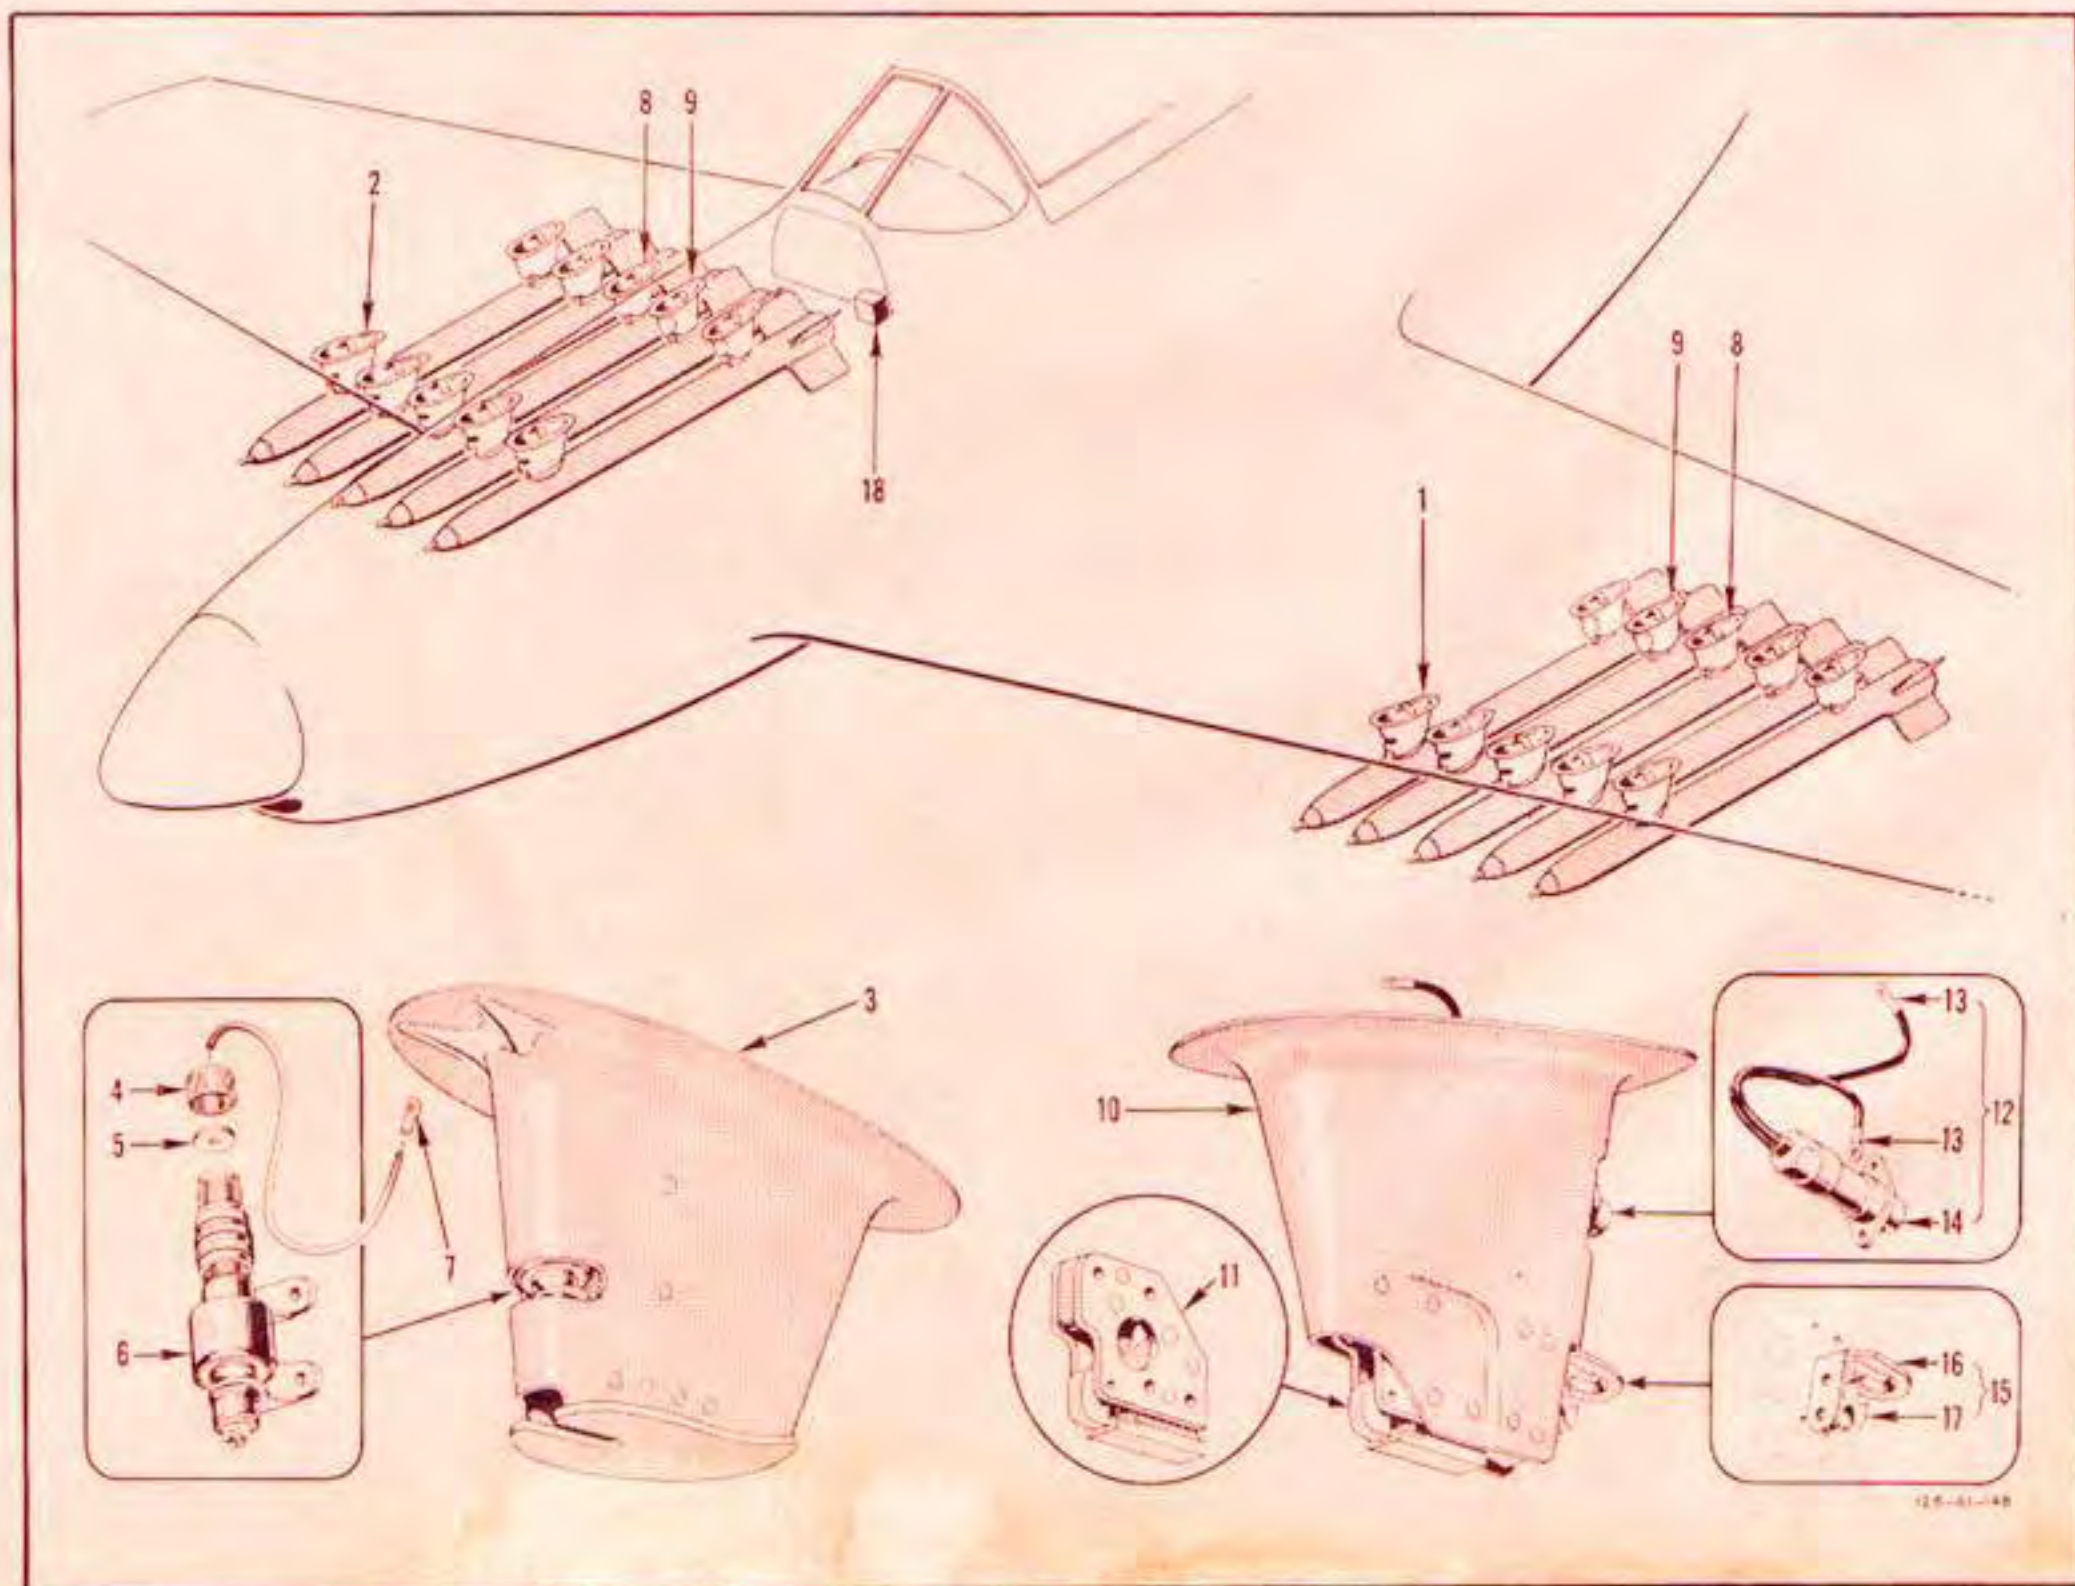

Figure 451A—Zero Rail Rocket Installation
b. ZERO RAIL ROCKET LAUNCHERS. (See figures 451A and 451B.)—Three removable zero rail launchers are installed under each wing for supporting T64 (5-inch
Key to Figure 451A